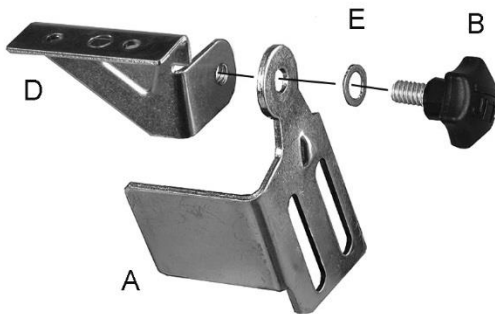

Figure 5-2: brackets to spark guards
Refer to Figure 5-2.
**Note:** Spark guards (A) and eye shield brackets (D) are marked **L** for left side assembly and **R** for right side assembly.
1. Assemble the left spark guard and eye shield bracket using Figure 5-2 as a guide. Make sure spark guard and bracket are both marked **L**.